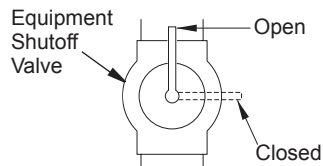

Figure 27 - Equipment Shutoff Valve
1. Close equipment shutoff valve (see Figure 27).
1. Open equipment shutoff valve (see Figure 27, page 18).